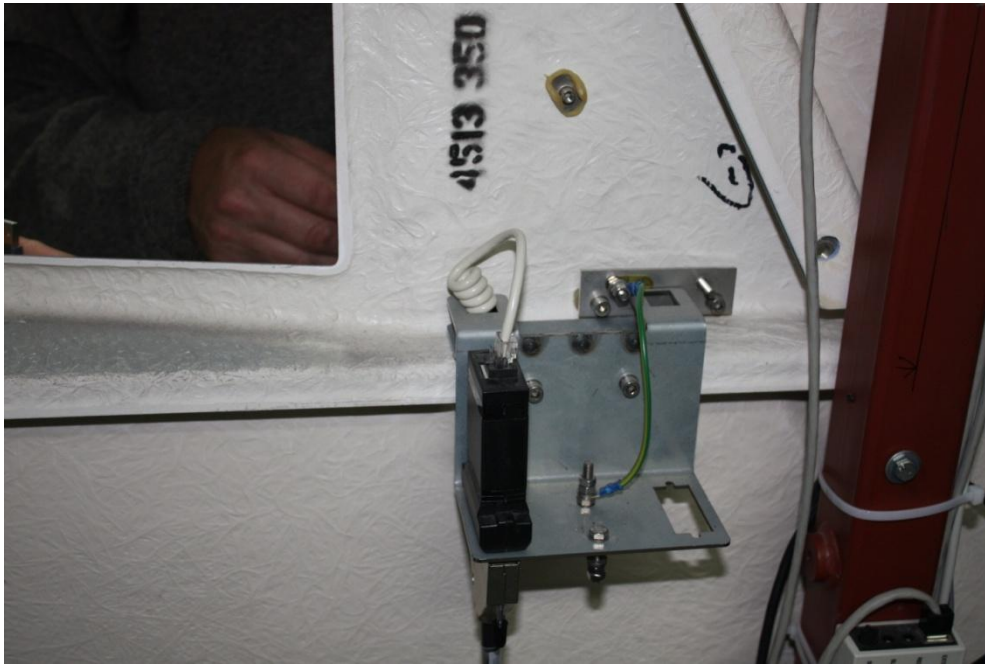
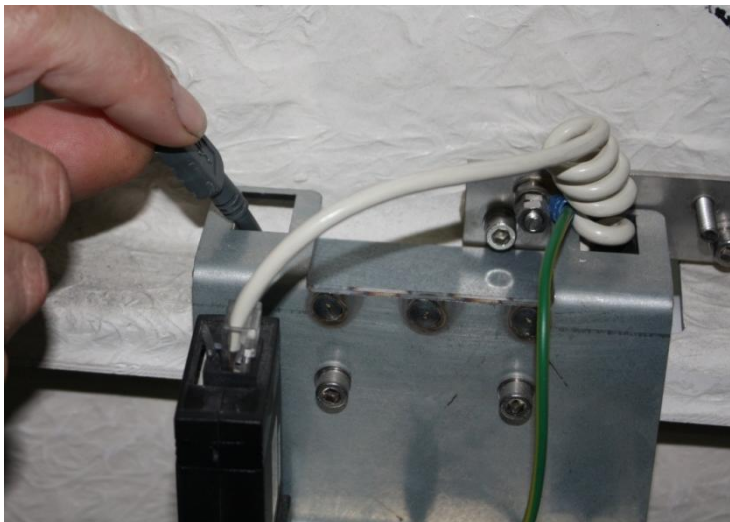

Figure 4: Route the USB cable
Figure 5: Cable in right bracket hole
7. Route the USB cable for the bar code scanner through the hole nearest the bar code scanner (see Figure 4 and Figure 5).